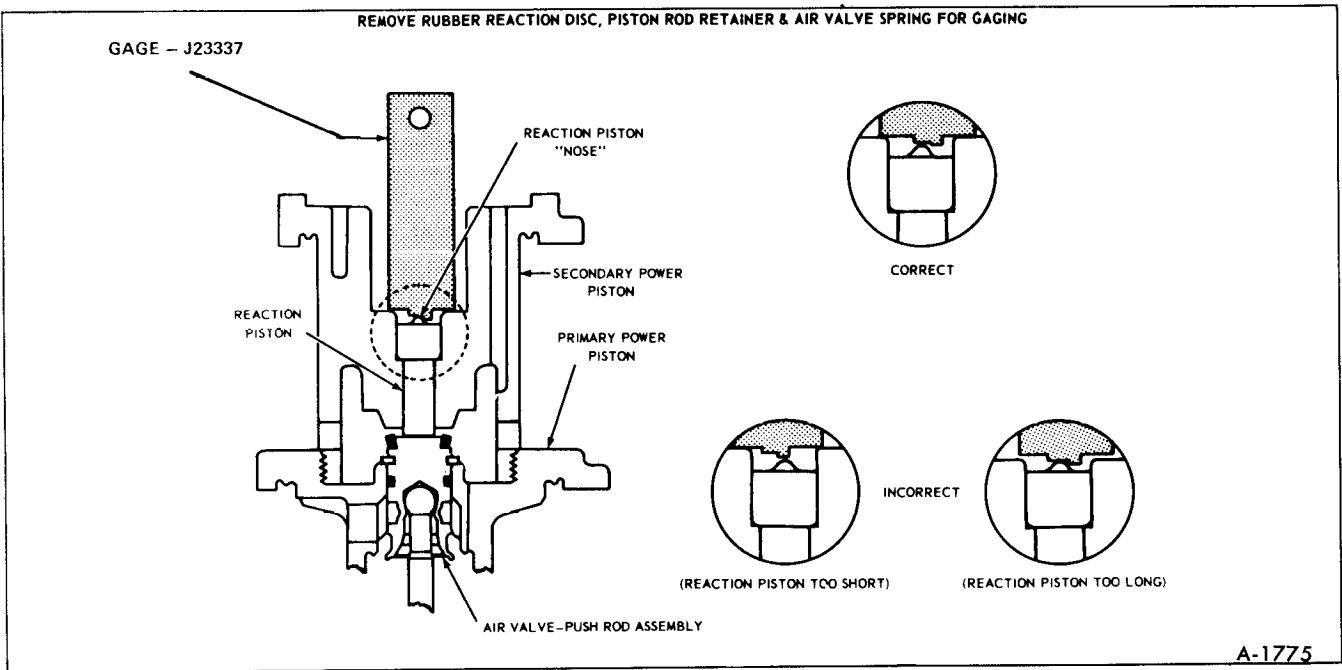

Figure 51-Gauging Piston Rod
47. Place gauge J-23337 over the piston rod in a position which will allow the gauge to be moved to the left or right without contacting the studs. (figure 51)